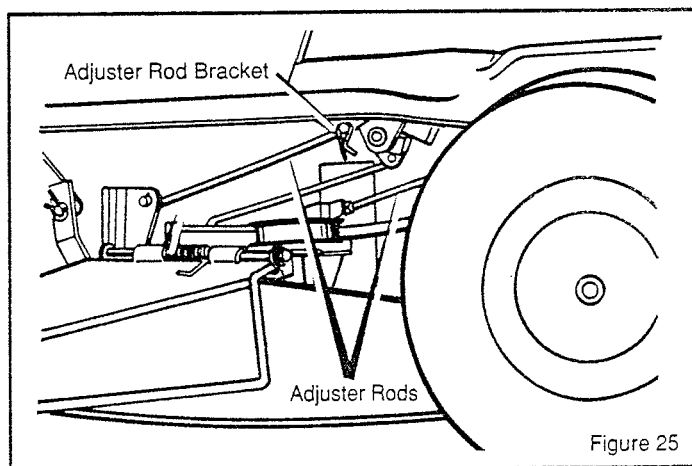

Figure 25
1. Disconnect both **adjuster rods** from the **adjuster rod brackets** (Figure 25).